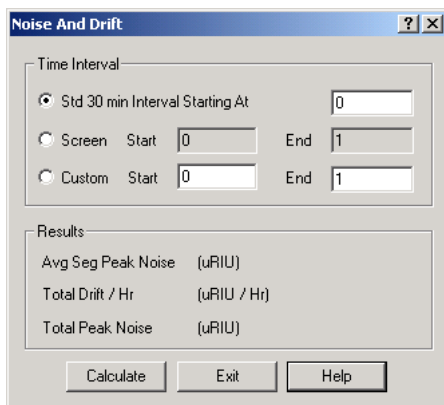

Figure 5-5 Noise And Drift Dialog Box
4. Calculate the noise and drift of a channel (Figure 5-5):